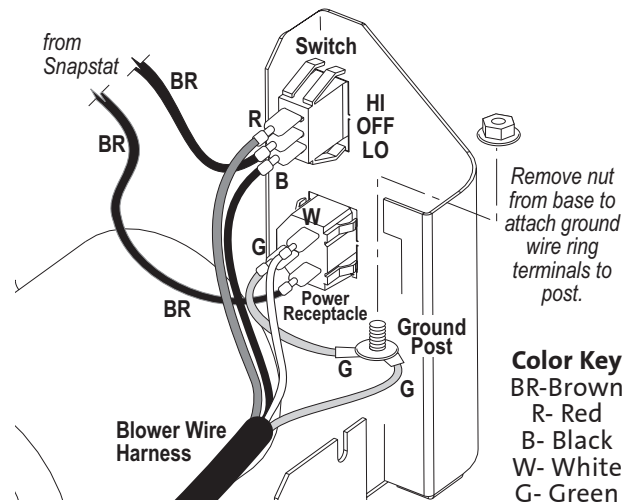

Figure 17. Wiring configuration.
**7. Connect the wire leads:** Follow the diagram as shown in fig. 17. Connect the loose wires as follows: